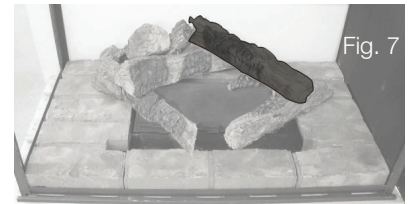

Fig. 7
- Place log #7 onto the pin located in log #6 and onto the pin in log #5 **(FIG.7)**.